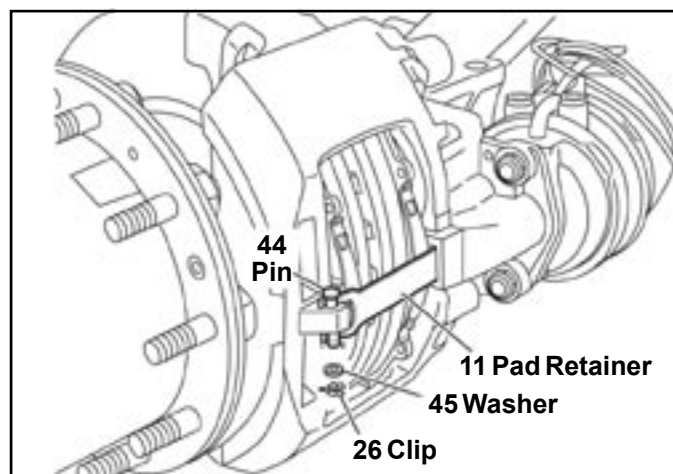

FIGURE 35 - BRAKE PAD INSTALLATION
Install the supplied washer (45) and spring clip (26) to the pad retainer pin (44). It is recommended that the pad retainer pin (44) be installed pointing downwards (see Figure 35).